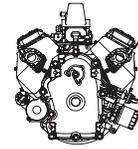

Figure 13-12. Torque Flywheel Nut
4. Torque flywheel nut to 214 Nm (150 ft. lbs.), Figure 13-12.